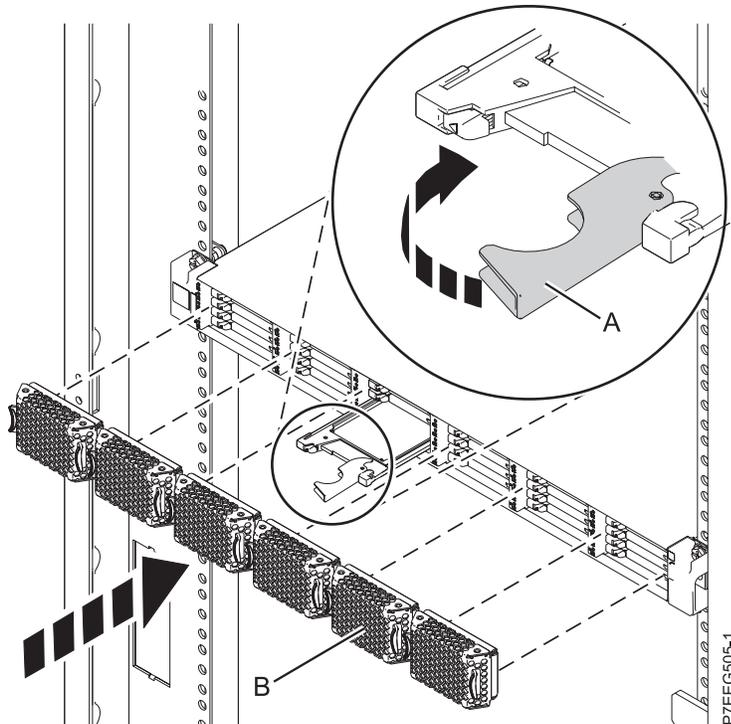

Figure 32. Replacing a solid-state drive in the 58/88 PCIe storage enclosure.
4. When the solid-state drive identify LED flashes, slide the solid-state drive all the way into the 58/88 PCIe storage enclosure until it is fully seated. Then rotate the handle (A) to the locked position. See Figure 32 on page 53.
5. Install the bezel (B).